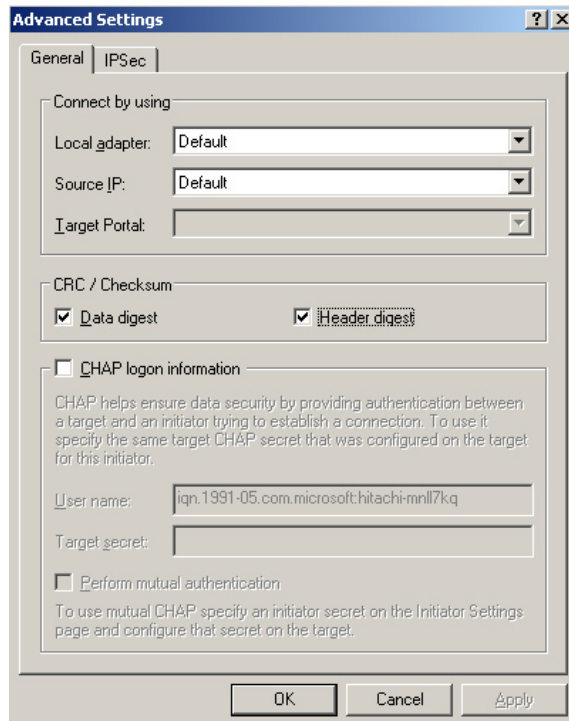

Figure C.10 Enable CRC/Checksum
7. Click the Advanced button. The Advanced Settings dialog box appears (see Figure C.10).